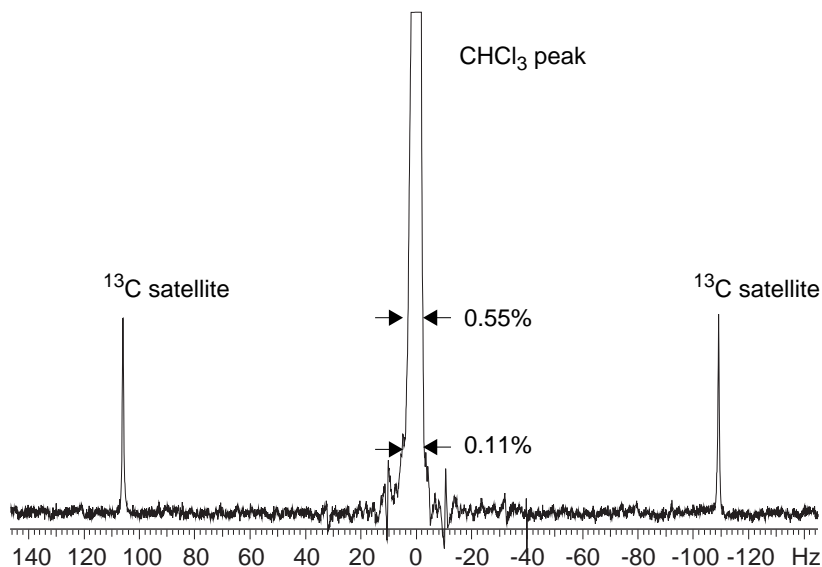

Figure 2. ^1H Lineshape Spinning Measurement
5. Measure lineshape as the linewidth of the CHCl₃ peak at 50%, 0.55%, and 0.11% of the main peak amplitude. Refer to Figure 2 for the measurement points.
- Measure lineshape as the linewidth of the CHCl_3 peak at 50%, 0.55%, and 0.11% of the main peak amplitude. Refer to Figure 2 for the measurement points.